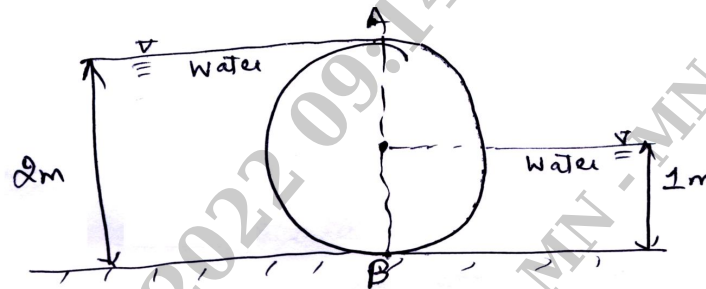

Fig.Q4(a)
- 4 a. A cylindrical gate is 3m long and has water on its both sides as shown in Fig.Q4(a). Determine the magnitude and direction of the resultant hydrostatic force exerted on the gate.